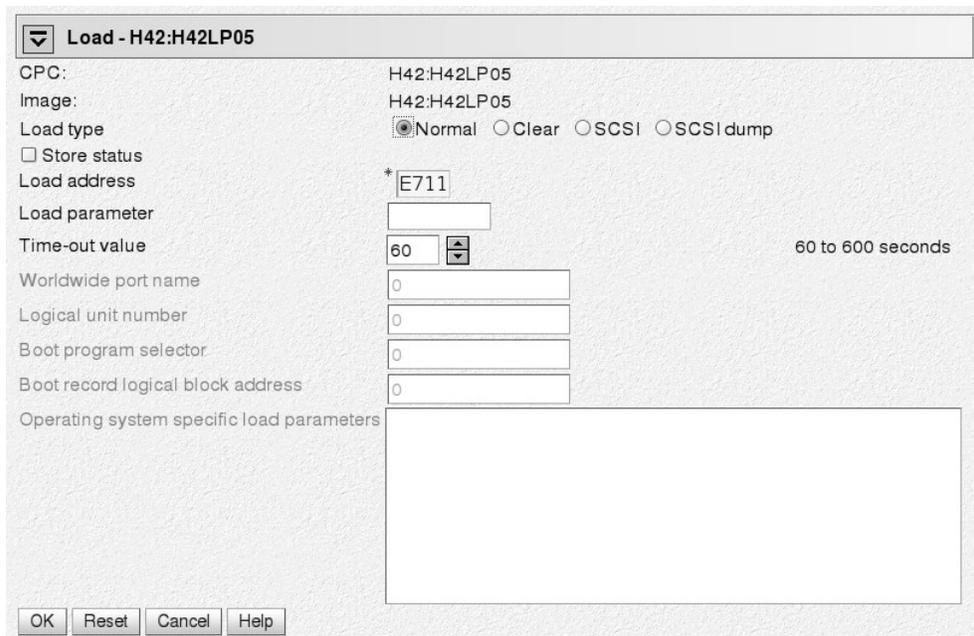

Figure 65. Load panel for booting from tape or DASD
- a. Select **Load type** “Normal” (see Figure 65).